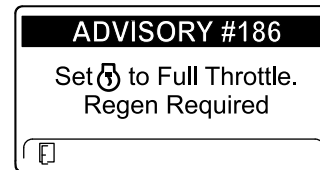

Figure 16
**Note:** If the engine exhaust temperature is too low, the InfoCenter displays ADVISORY #186 (Figure 16) to inform you to set the engine to full throttle (high idle).